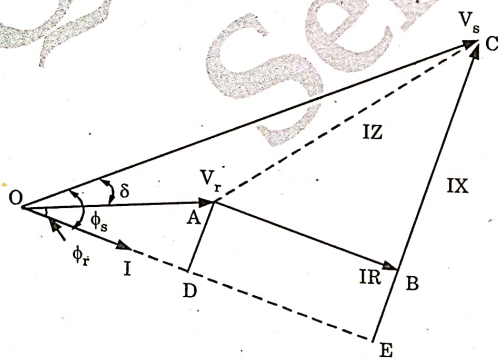

Fig. 2.22.2. Phasor diagram.
4. From Fig. 2.22.2, the power factor at sending end is given by $\dots(2.22.3)$